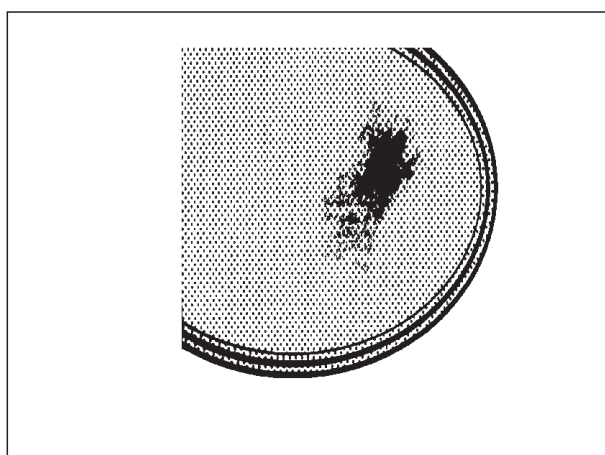

FIG. 3
- After a period of time may appear metal reflex and scratches (fig. 3) due to the wrong cleaning and the wrong use of the pots. The scratches are difficultly removable, but they do not compromise the good working of the hob.